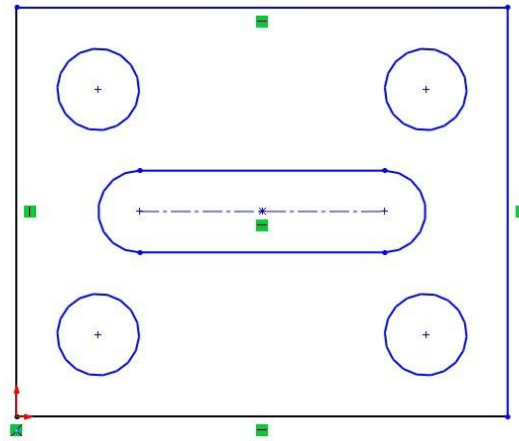

Figure 2-31 *Final sketch for Tutorial 3*
20. Choose the **Zoom to Fit (F)** button from the **View (Heads-Up) > Hide/Show items** toolbar to fit the sketch on the screen. The final sketch with the display of relations turned on, is shown in Figure 2-31.